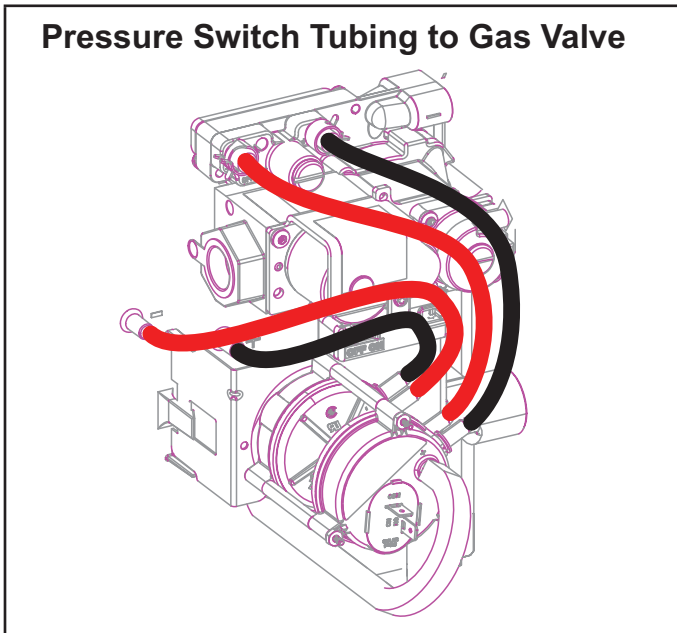
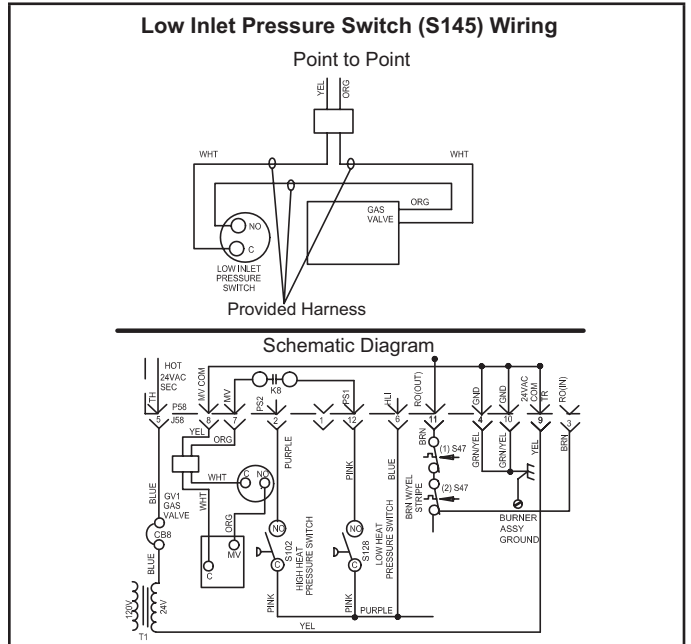

FIGURE 2
FIGURE 5
- 13 - Thread pressure switch (S145) to fitting 2 to 3 turns hand tight, then wire as shown in "FIGURE 5" and gas valve.
- 16 - Reconnect pressure switch tubing and wiring. See "FIGURE 2" and "FIGURE 5".